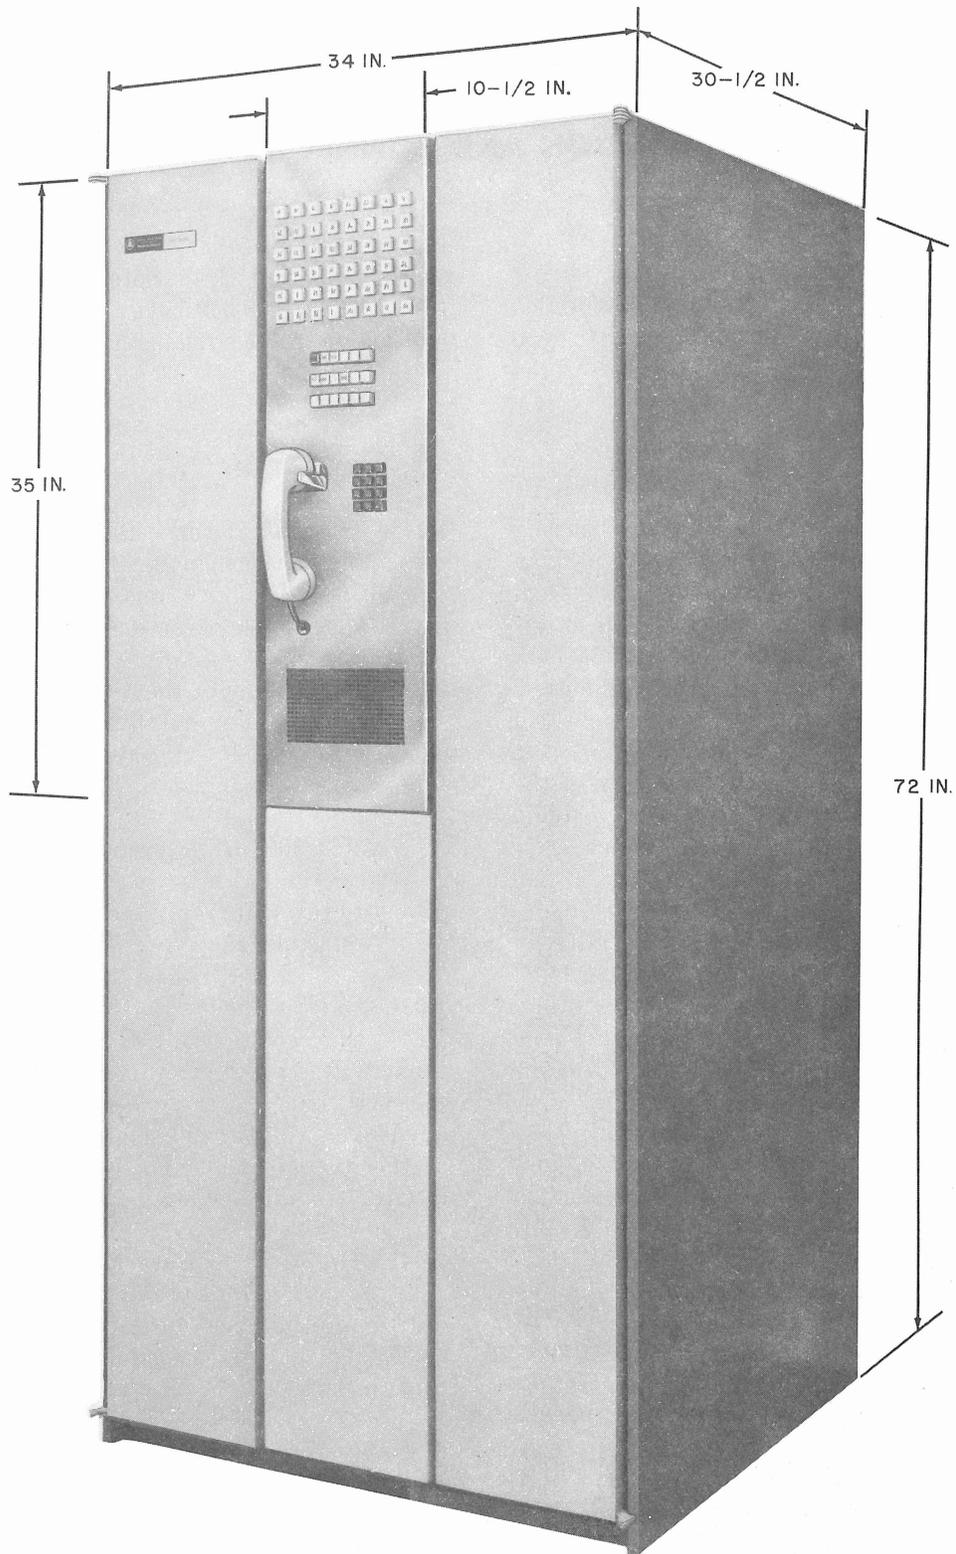

Fig. 1—Data Auxiliary Set 804L-Type Mounted in a KS-20093-L1 Cabinet
1.03 Data Auxiliary Set 804L-type (Fig. 1) is a control panel used in conjunction with the data mountings. The panel is used to provide control over a maximum of 48 switched access or private line data sets.